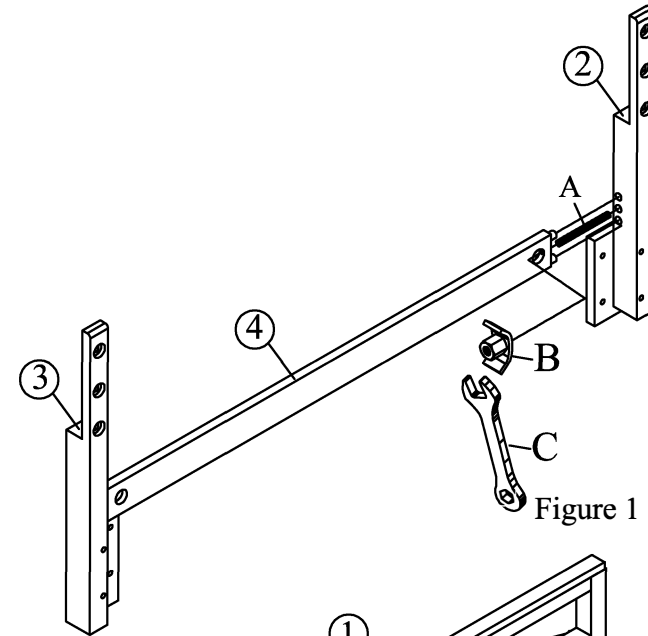

Figure 1
- STEP 1. Insert the two threaded bolt (A) into the headboard leg left (2) and right (3). Tighten by hand only.
- STEP 2. Insert the stretcher (4) into the threaded bolts protruding from the headboard leg (2), (3) use dowel as guide. Attach curve washer nuts (B) onto the threads and secure by hand at first. Tighten evenly using the spanner wrench (C). See Figure 1
- STEP 1. Screw the bolts (A) into the two threaded holes that are at the bottom of the posts of bolt the headboard and the footboard. Slide the bed rail onto the two bolts (A) on one of the bed posts until the bolts (A) are visible through the holes on the inside of the bed rail. See Figure 1.
- STEP 2. Slide a curve washer nuts (B) onto the bolts (A) through the holes in the bed rail. Tighten all the curve washer nuts (B), using the spanner wrench (C). See Figure 1.